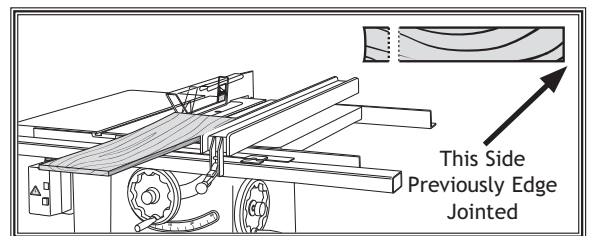

Figure 35. Rip cut on a table saw.
4. **Rip Cut on a Table Saw:** The jointed edge of the workpiece is placed against a table saw fence and the opposite edge cut off (**Figure 35**).